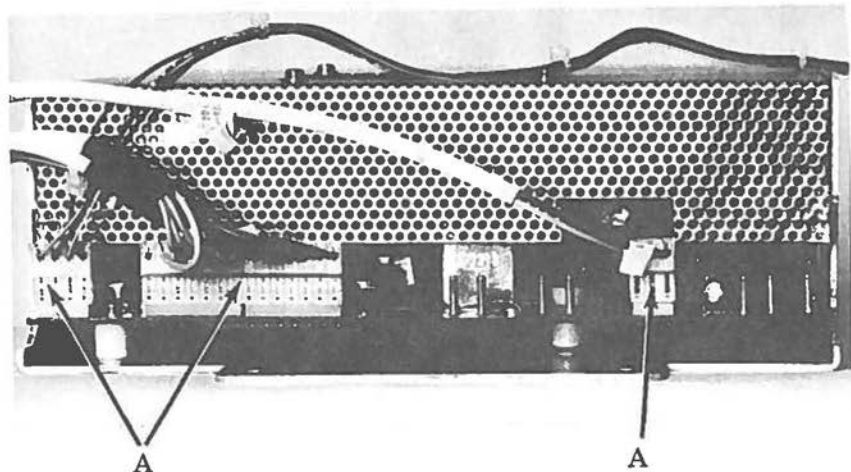

Figure 6-14 Color CRT/Power Supply Removal
1. Disconnect the three connectors (A) from the left side of the power supply board (Figure 6-14) .